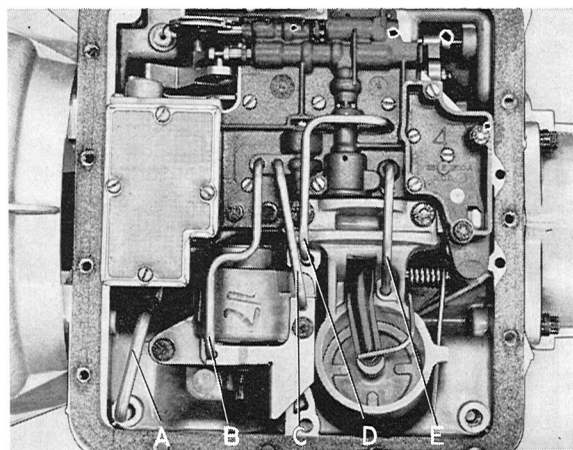

Fig. 4-87. Oil tubes
3. Remove the oil pan bolts and the oil pan. Lever out the oil tubes B-E carefully as shown in Fig. 4-87.